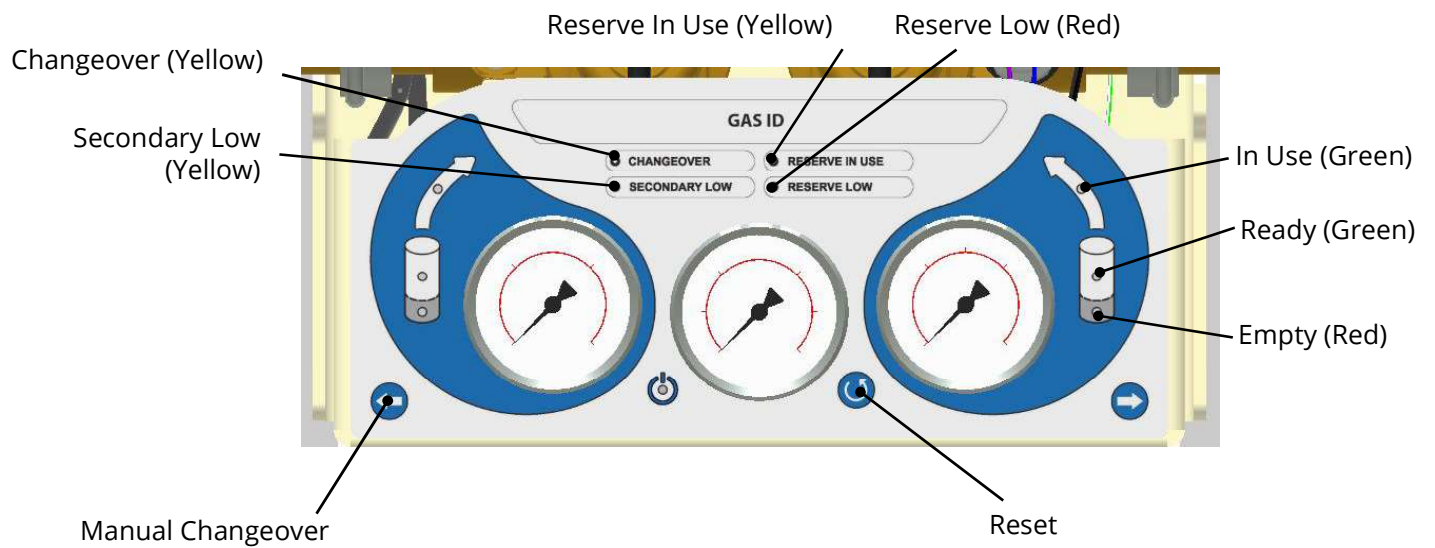
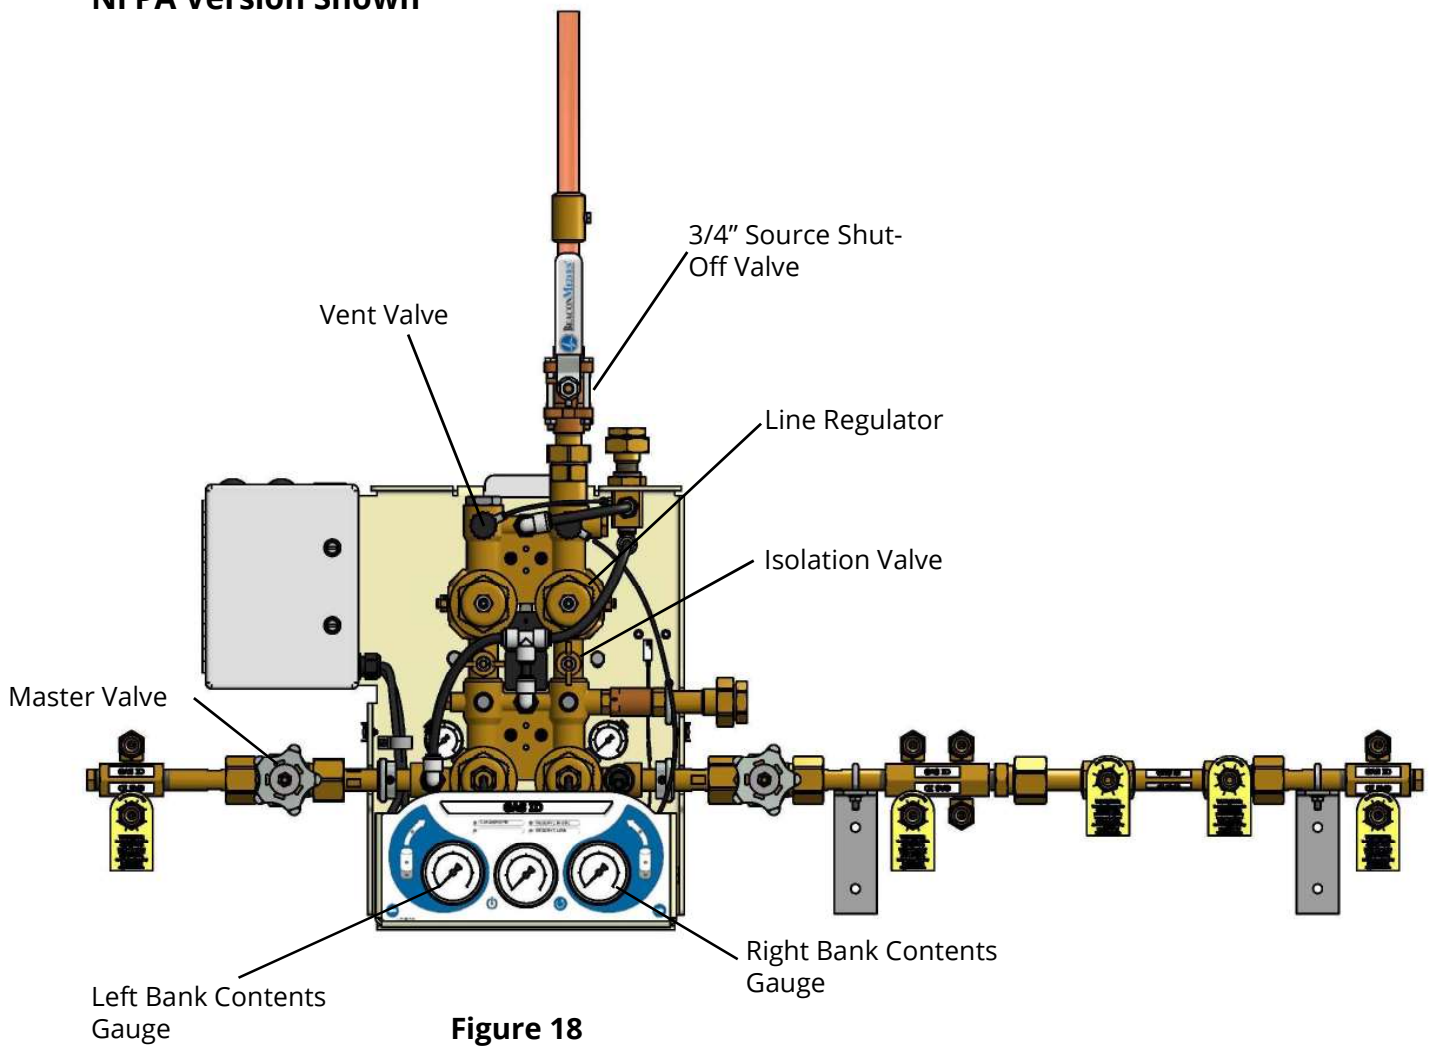

Figure 17
Figure 18
See Figures 17, 18, and 19.
2. Verify the following: (Refer to Figure 18 for component location and Figure 17 for Light location).
- Both red "EMPTY" lights on front of manifold and the yellow "RESERVE IN USE" yellow "SECONDARY LOW" light and red "RESERVE LOW" are illuminated (See Figure 17)
10. Close manifold left liquid container. Slightly open vent valve (Figure 18). Verify following:
Refer to Figures 17, 20 and 21.